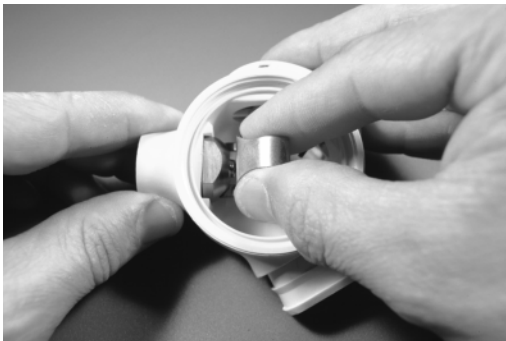

Fig. 10 – Installing Valve Assembly
1. Lay the valve body and lever assembly inside the box bottom with the lever facing up. Mate the valve body into the inlet port of the box bottom until it is seated flush against the wall inside (see Fig. 10).